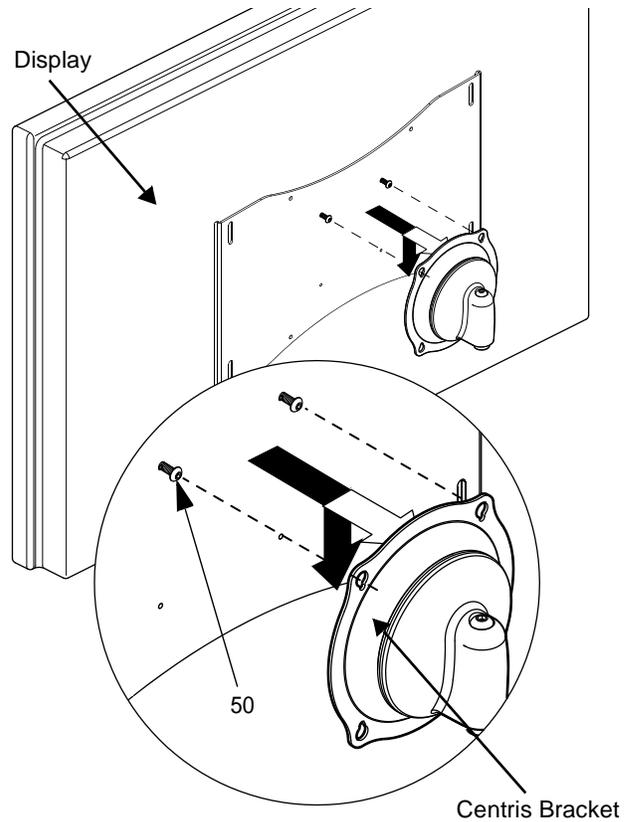
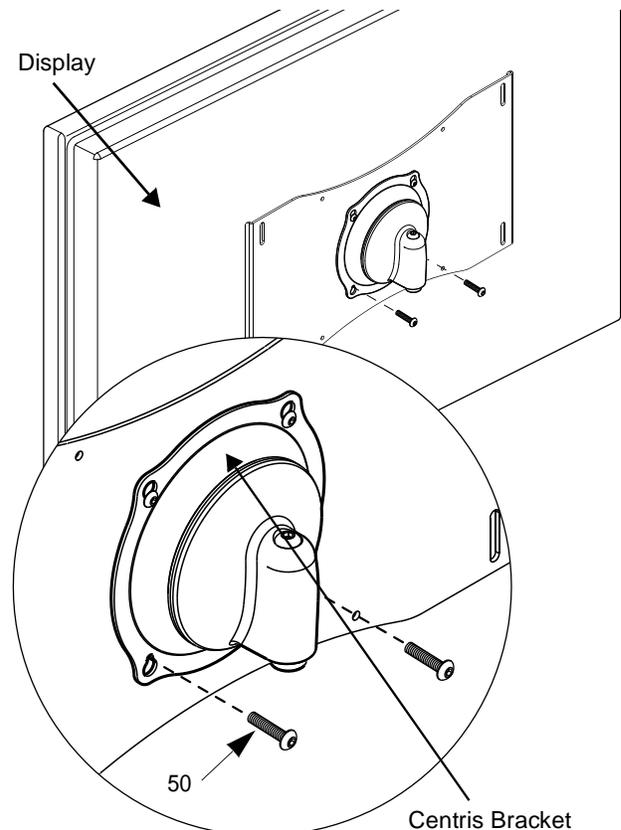

Figure 7: Attach Display to Centris Bracket
Figure 8: Attach Display to Centris Bracket
1. Start two M4 x 8mm Phillips pan head screws (50) into the top two mounting holes of the previously attached interface bracket. (see Figure 7)
2. Hang the mount from the two screws (50) started in Step 1. (see Figure 7)
3. Install the remaining two M4 x 8mm Phillips pan head screws (50) into the bottom two mounting holes of the display. (see Figure 8)
4. Secure the display to the mount (Centris bracket) by tightening all four M4 x 8mm Phillips pan head screws (50). (see Figure 7) and (see Figure 8)